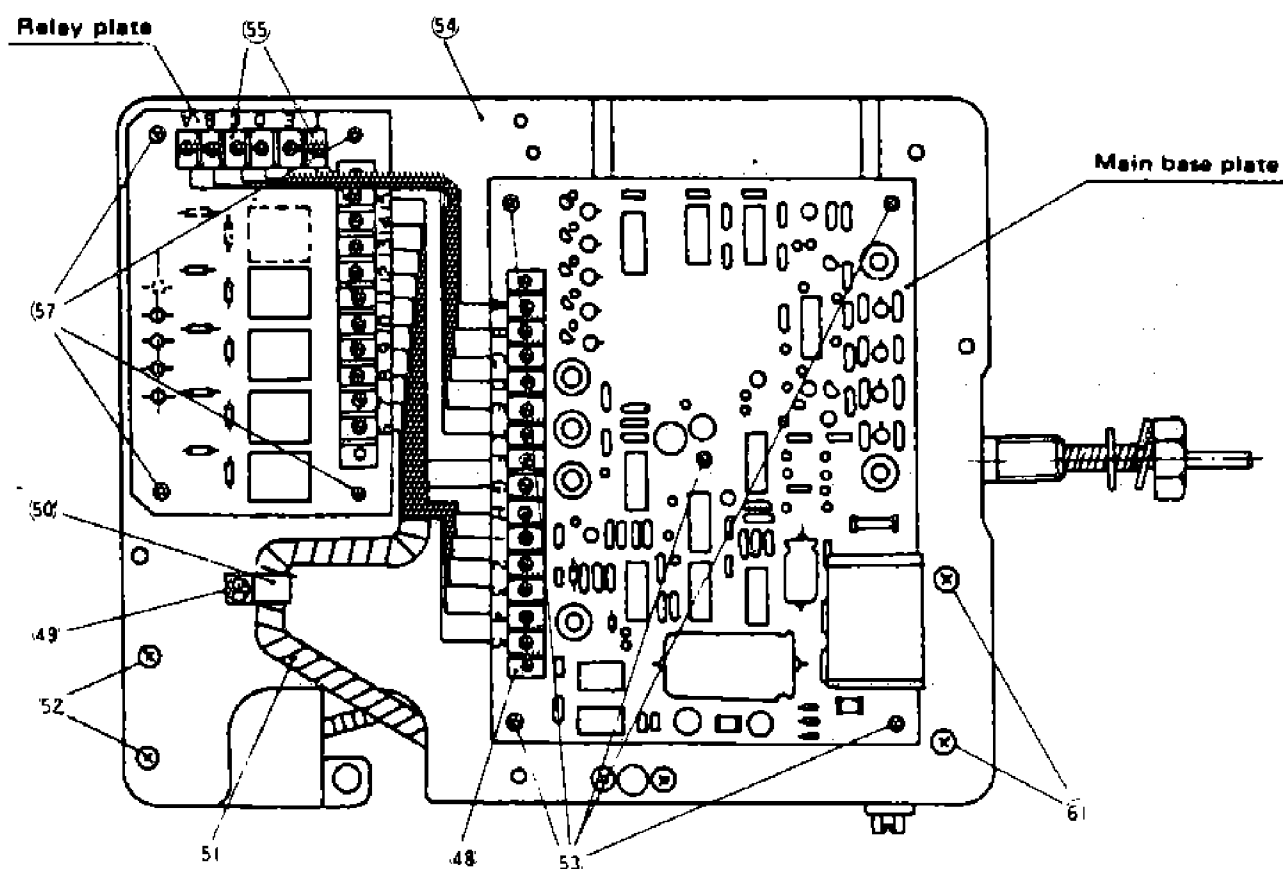

Fig. 4 Internal device assembly
(2) Remove the internal device assembly. Loosen four hexagonal nuts (11) and screws (46) and remove the internal device assembly from the main body (1) and turn it back. Then it looks as shown in Fig. 4.
**(2) Measuring resistance of the volume setter**
- Adjust the volume setter as shown in Fig. 4 in accordance with Article d, (2).
- Remove the lead wires (3 pcs, F. G. H.) which are laid from the volume setter from the terminal (48) (14P) on the terminal strip of the main base plate and measure resistance between G and H of the lead wires.
**(3) Replacing points**
- From the state of the volume setter as shown in Fig. 4, loosen screw (49), remove power source plug (50), remove the spiral tube (51) from the wires. Then remove two screw bolts (52) and the volume setter can be removed from the base (54).
- After replacing the volume setter with a new one, inspect and adjust it in accordance with Articles c. (1). ① and c. (1). ②
② Main base plate
(1) Replacing standards
- In case the volume setter shows the phenomena as stated in Article d,(2). ① Replacing standards and yet it has no trouble or the same phenomena take place after replacing the volume setter.
(2) Replacing points
- Adjust the volume setter as shown in Fig. 4 in accordance with Article d, (1).
- Remove the wires (14 pcs Nos A ~ H, 1 ~ 5) from the terminal strip (48) on the main base plate.
- Remove 5 screws (53) to remove the base (54) from the main base plate, so replace it with new one.
③ Relay base
- Adjust it as shown in Fig. 4 in accordance with Article d, (1).
- Remove the wires (14 pcs No. A ~ E, F ~ H, I, 1 ~ 5) from the terminal strip (55) on the relay base plate.
- Loosen four screws (57), and the relay base plate can be removed from the base (54). So replace the relay base plate with a new one.
- Take out the internal assembly as stated in Article d, (1) and turn it inside out, which is shown in Fig. 4.
- Loosen two screw bolts (61) to remove the feeler tube – element and replace it with new one.
- After replacement, inspect and adjust it in accordance with Article c. (2)